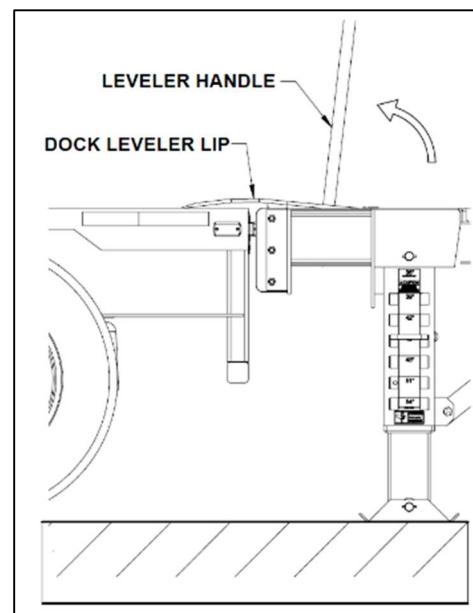

Figure 10c. Lowering Leveler onto truck/trailer
3. Lower the dock leveler by slowly pressing the handle forward. Lip will automatically extend and lower onto the vehicle bed (see Figure 10c).